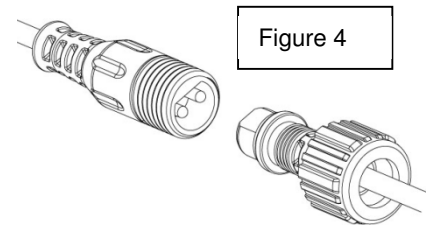

Figure 4
- 3) All the connectors are protected against reverse polarity as shown in Figure 4. Don't insert the plug with reverse polarity by using force.